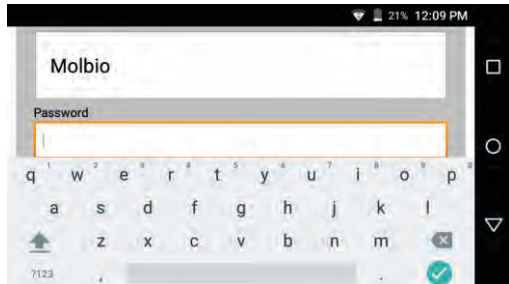

Figure 10: The Login Screen, with the On-screen Keyboard
- 4.2.3.2 Tap the “**Proceed**” Button on this pop-up as shown in Figure 10. The **Sample Details Form** will be displayed.